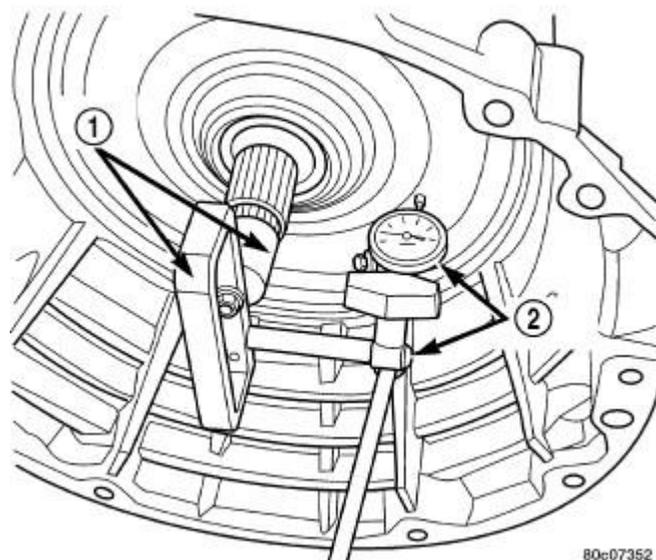

Fig. 45: Measuring Input Shaft End-play
8. Using Adapter (special tool #8266-1, Spline Tool, RFE Input) from End-Play Tool Set (special tool #8266B, End Play Socket Set) (1) and Dial Indicator (special tool #C-3339A, Set, Dial Indicator) (2), measure and record the input shaft end-play. Refer to **Fig. 45**.